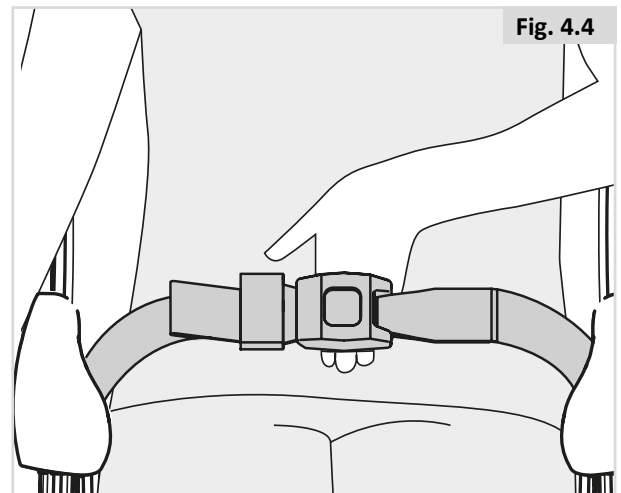

Fig. 4.4
- Adjust the lap strap to suit, leaving no more than a hand's width gap for comfort and safety (Fig 4.4).